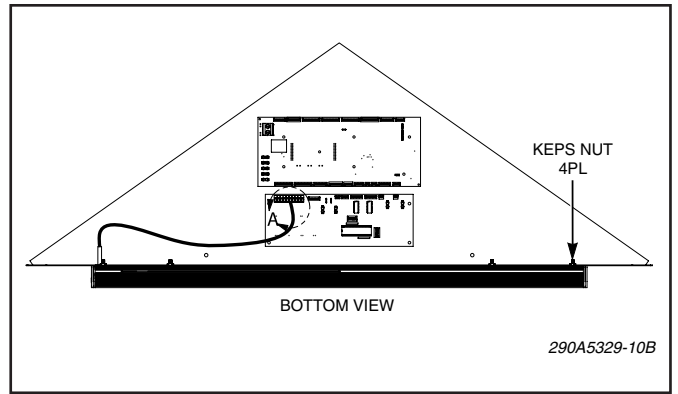

Figure 10.
c. See figure 10. Remove the 4 Keps Nuts securing the SignalMaster to the cover. Remove the SignalMaster.